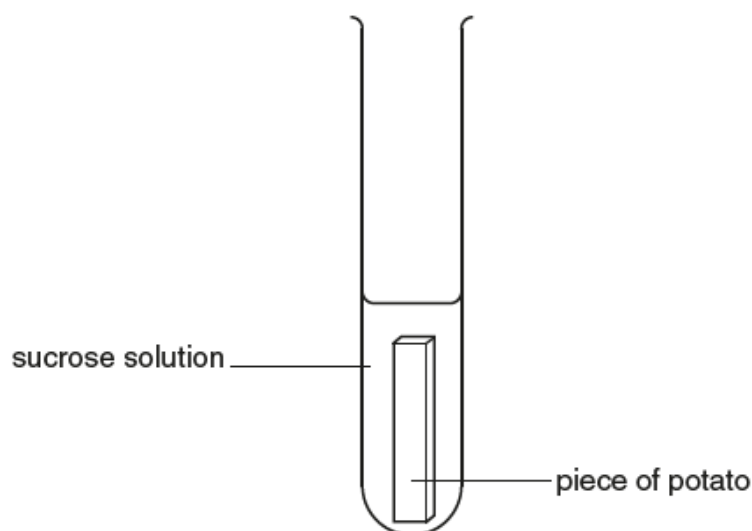

Fig. 1.1
When a piece of potato is put into a sucrose solution, as shown in Fig. 1.1, water will move by osmosis into and out of the potato cells. The **net direction of movement of water** depends on the **difference in water potential** between the potato cells and the sucrose solution.
15. Put the end of the pipette into the **test-tube** containing 1.00 mol dm^{-3} concentration of sucrose solution, **S1**. This should be level with the marker line on the test-tube as shown in Fig. 1.1 on page 2.